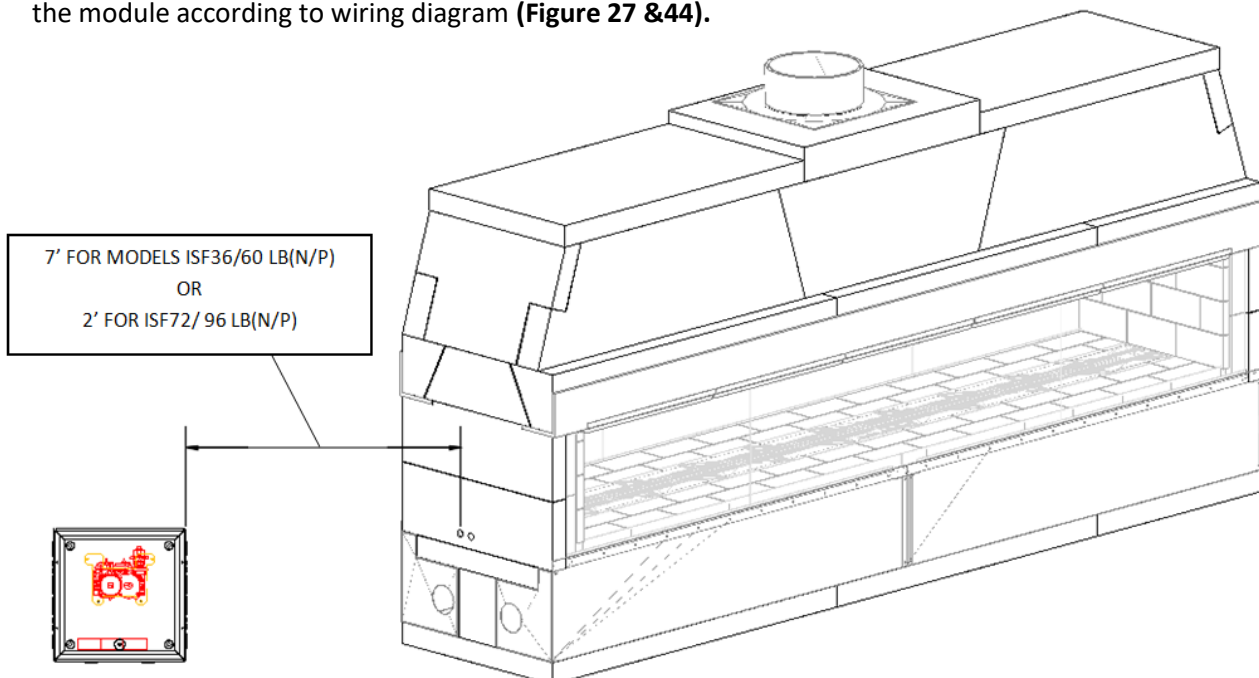

FIGURE 41
- 1) The valve control box comes with an 110" pilot assembly lead; therefore, the box must be mounted within 7' of the fireplace for burner models ISF36/60LB (N/P) and within 2' for models ISF72/96LB (N/P). **(Figure 41)**